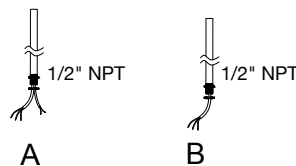

FIGURE 8
1. Unscrew the nuts on 1/2" NPT. (Figure 8)